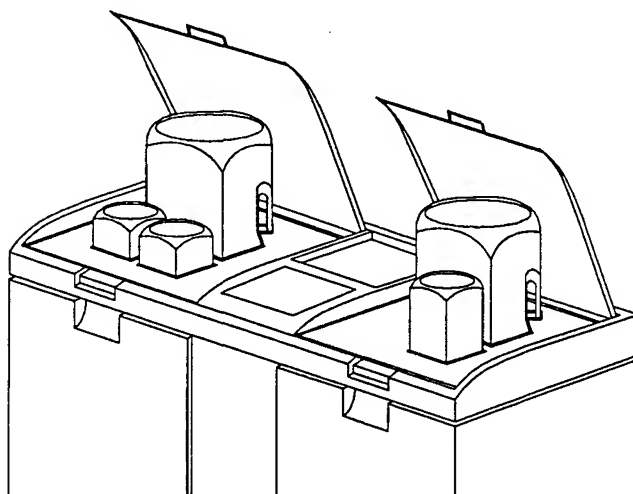

figure 6-7
8. Press CHEMICAL BOTTLES only into the appropriate apertures of the TEMPLATES (figure 6-7 European Version is shown).